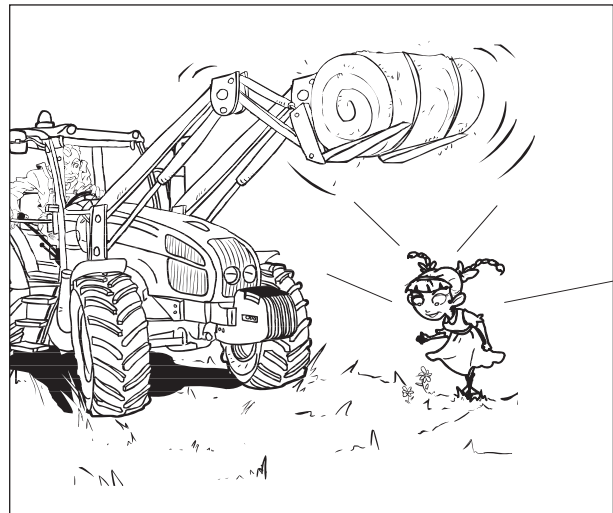

Fig.2-17
- Keep others away from your operation area. Never allow anyone to stand or pass under a raised implement (Fig.2-17).
WARNING: **NEVER** lift a load over anyone (Fig.2-17).